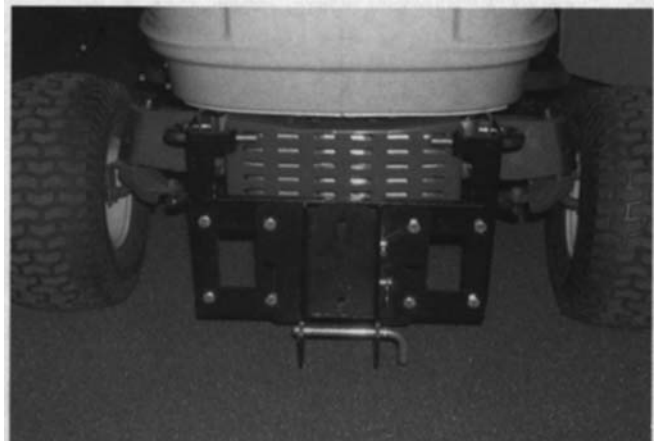

Figure 8-121.
9. Remove the channel pivot pin, washer, and hairpin clip from the pivot support bracket. See Figure 8-121.